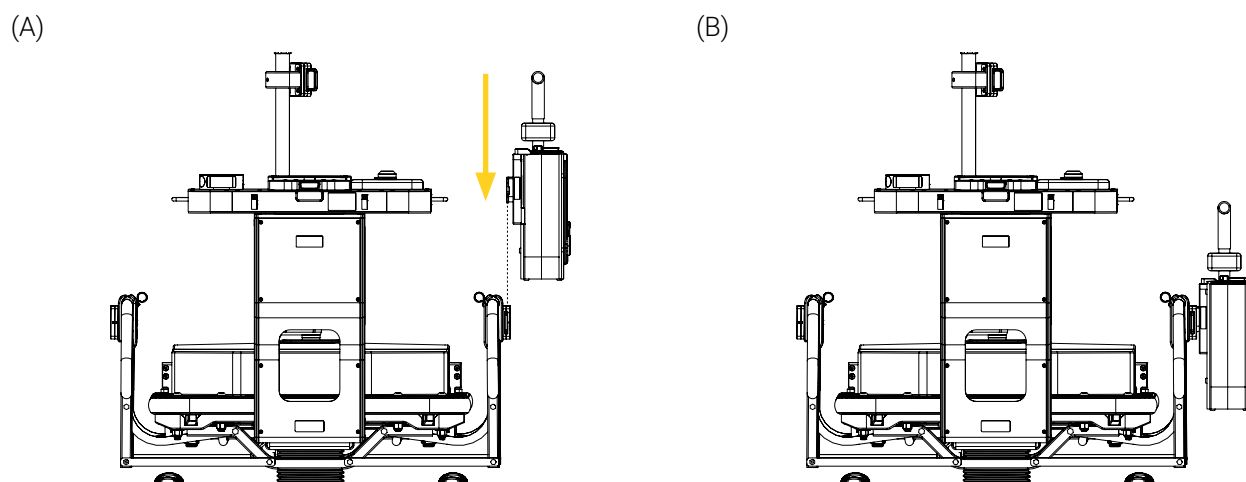

Figure 48: Installing the medical device in the Flex Sequor assembly
1. Align and insert the mounting clip located behind the medical device's mounting bracket in the Flex Sequor assembly vertically and press down until it locks (Figure 48).